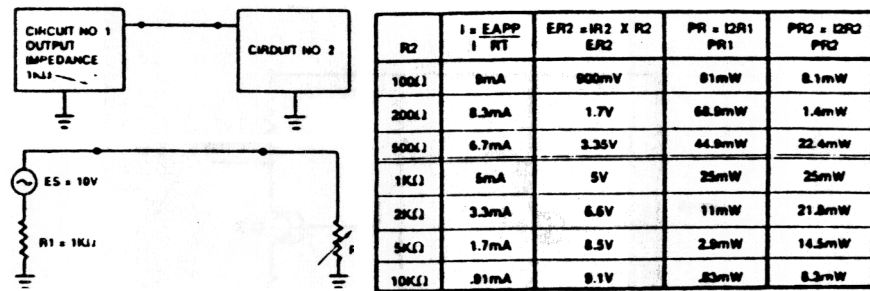

figure 5
We will now discuss what is meant by the term maximum power transfer. Refer to figure 5. Circuit No. 1 is representative of a power source. It could be a power supply or an amplifier stage. Circuit No. 2 is a load that is being driven by the source (ckt. No. 1). It could be a variable resistor as shown or possibly another amplifier stage. For this discussion assume the source will supply a constant 10v and its internal resistance (output impedance) is a constant 1K Ω . R_2 represents the input impedance of the next stage and will be made variable to aid in the discussion.
If a device capable of measuring the power ($P = I^2R$) is attached to the load (R_2), when the load is adjusted, the power developed by the load will vary and be indicated by the measuring device. R_2 can then be adjusted until the maximum power that is capable of being developed by R_2 and the source is obtained. If the resistance of R_2 is read at this time, it would be seen that the resistance (impedance) of the load (R_2) and the source (R_1) match. The chart in figure 5 has been developed to show this action. Notice that as R_2 is increased the power developed by R_2 (P_{R2}) increased up to a certain point. Maximum power is developed at R_2 when R_1 and R_2 match (are the same value). As R_2 is increased further, the power begins to decrease. This is due to the continued decrease in circuit current (I) as a result of the increase in total circuit resistance. Notice also that as R_2 increases the voltage across it (E_{R2}) increases. If the load resistance is much larger than the source resistance, most of the circuit voltage will be developed across the load. If this idea was applied to the amplifiers, there would be a large voltage developed across R_2 but very little power. Notice also, that the larger the load resistance, the lower the total power developed in the circuit.